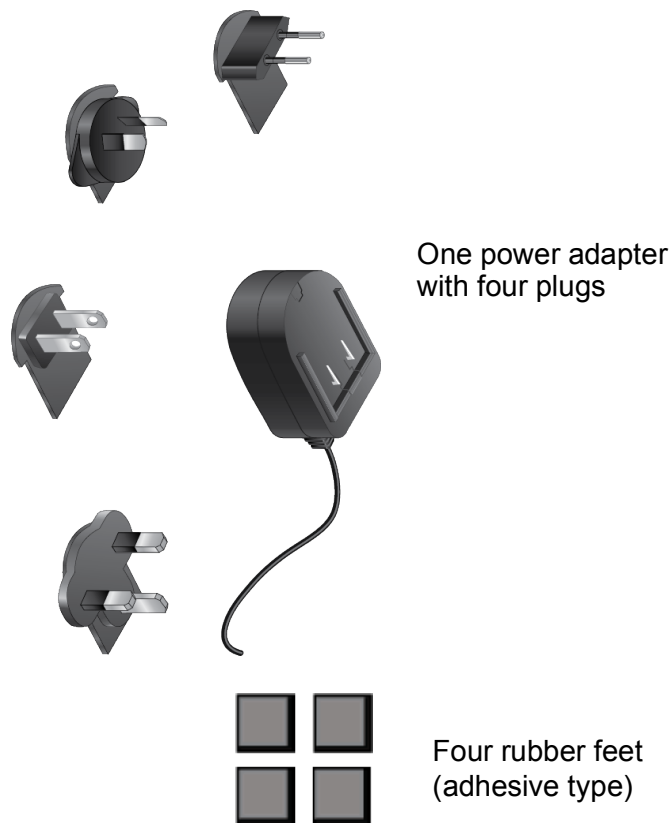

Figure 27. Shipping Package Contents
3. In addition to the media converter, verify that the shipping container includes the following items. Figure 27 shows shipping container items for the MMC10GSP/SP and the MMC10GT/SP Media Converters.